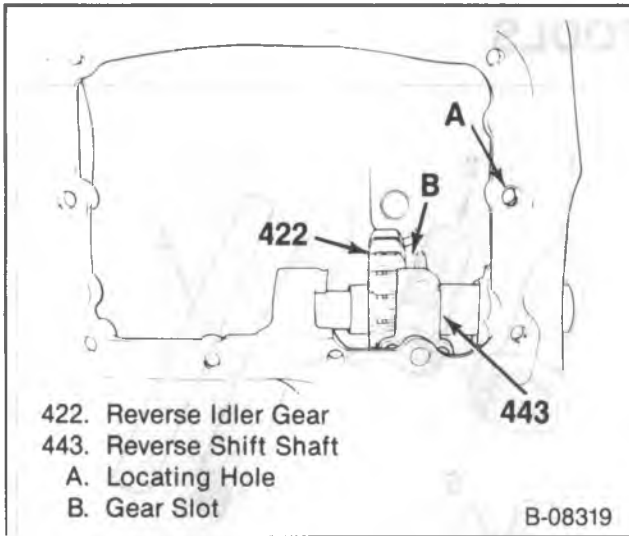

Figure 16—Reverse Idler Gear and Case
5. Countershaft (429) and the woodruff key.
6. Reverse shift shaft (443) and a new seal.
7. Reverse idler shaft (424) and the reverse gear.
- Put the gear onto the shaft with the fork slot to the rear and engage the slot with the reverse shift shaft fork (figure 16).
9. Bearing retainer (401) and a new gasket.
10. New countershaft plug (432).
15. Side cover screws (449) and new spring washers.
- Install the locating (long shoulder) screw finger tight in the locating hole (A), (figure 16).
16. Reverse shift lever (445).